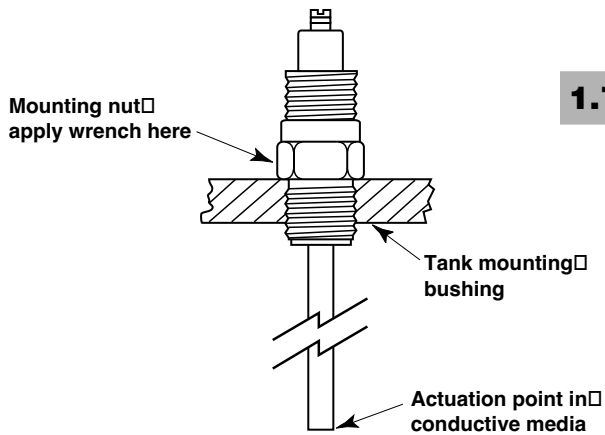

Figure 3
As medium rises on the probe, unit will signal at a point determined by the calibration of the unit and the dielectric constant of the medium. In conductive media, the actuation point will be at the tip of the probe over a wide range of zero calibrations. Refer to Figure 3.
2. Tighten securely, being certain that the wrench is applied **ONLY** to the mounting nut. Refer to Figure 3.